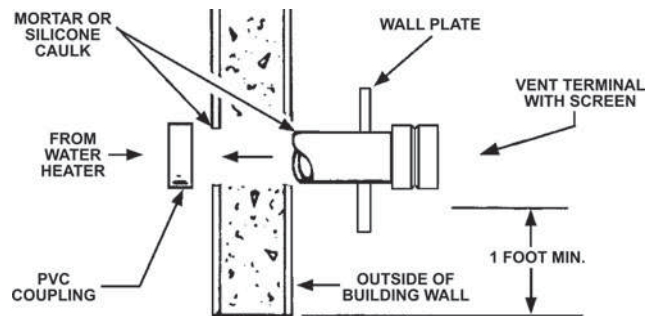
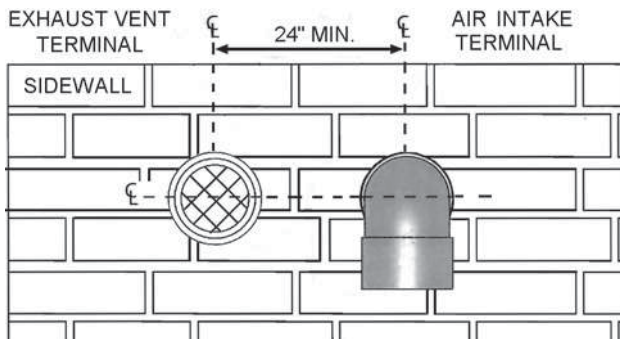

Figure 13: VENT TERMINATION
Figure 14A
2. Through-the-Wall Termination - horizontal vent termination directly through an outside wall, see Figure 13 on Page 26.
The first step is to determine where the vent pipe will terminate. See Figure 13, Figure 14A, and Figure 15. The vent may terminate through a sidewall as shown in Figure 13, Figure 14A and Figure 15 or through the roof as shown in Figure 18, Figure 19 and Figure 20.
Instructions on proper installation through a sidewall are provided in Figure 13, Figure 14A, and Figure 15.
Cut a length of pipe about 3.5 inches (8.9 cm) longer than the wall thickness at the opening. Glue the vent terminal to this section of pipe. Slide the wall plate over the pipe to stop against the vent terminal. Place a bead of caulking (not supplied) around the gap between the pipe and cover plate. Apply enough to fill some of the gap between the pipe and wall. Place some of the caulking on the back of the plate to hold it against the wall after installation. If the vent pipe is installed up to the wall, with a coupling on the end against the wall opening, the pipe with the vent terminal can be prepared for gluing before inserting through the wall. Slide the pipe through the wall and insert into the coupling on the other side of the wall, making sure that the vent terminal ends up pointed in the correct position, see Figure 13.
6. If the air intake pipe is installed up to the wall, with a coupling on the end against the wall opening, the pipe with the air intake terminal can be prepared for gluing before inserting through the wall. Slide the pipe through the wall and insert into coupling on the other side of the wall, making sure that the air intake terminal ends up pointed in the correct position (Figure 14A and Figure 15).